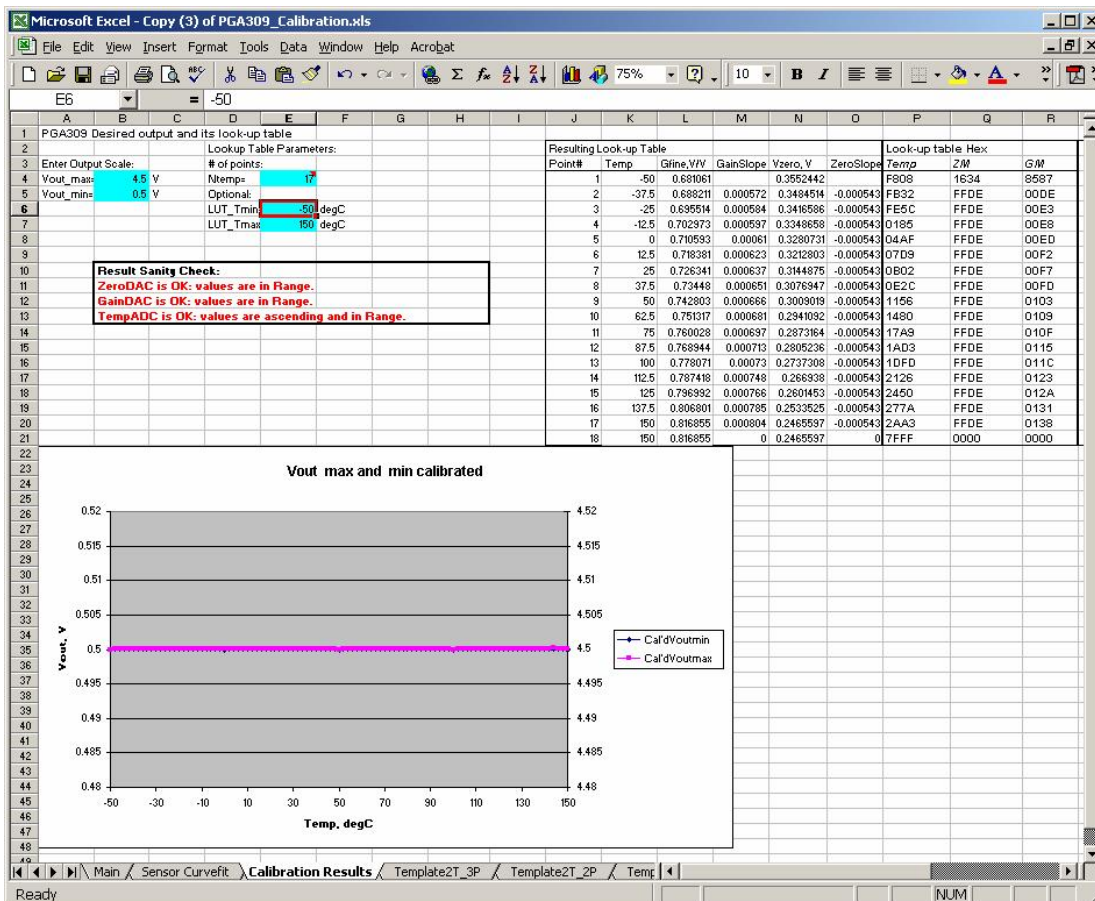

Figure 35: Calibration Results
3) The third worksheet is called “Calibration Results” (see Figure 35). It contains the calculated lookup table based on the curve-fitting coefficients from the calibration measurements. The blue fields are for the user data with the desired output voltage scale, compensation temperature range and the number of the lookup table points needed. The framed cells contain the messages about the validity of the calculated values: whether the DAC and Temp ADC values are in linear range achievable by PGA309 at all temperatures and the Table is arranged properly. The plot in the bottom shows the expected PGA309 output vs. temperature at zero and full-scale output signal.